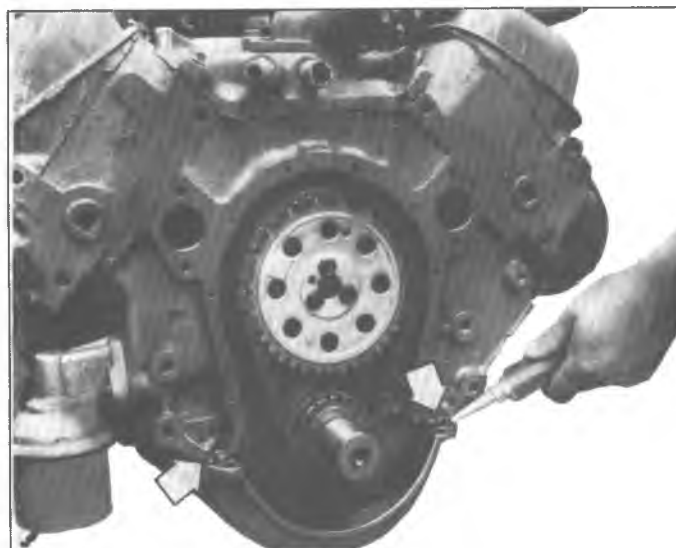

Fig. 18V—Applying Front Cover Sealer
5. Apply a 1/8 inch bead of silicone rubber sealer, part #1051435 (or equivalent) to the joint formed at the oil pan and cylinder block (fig. 18V).